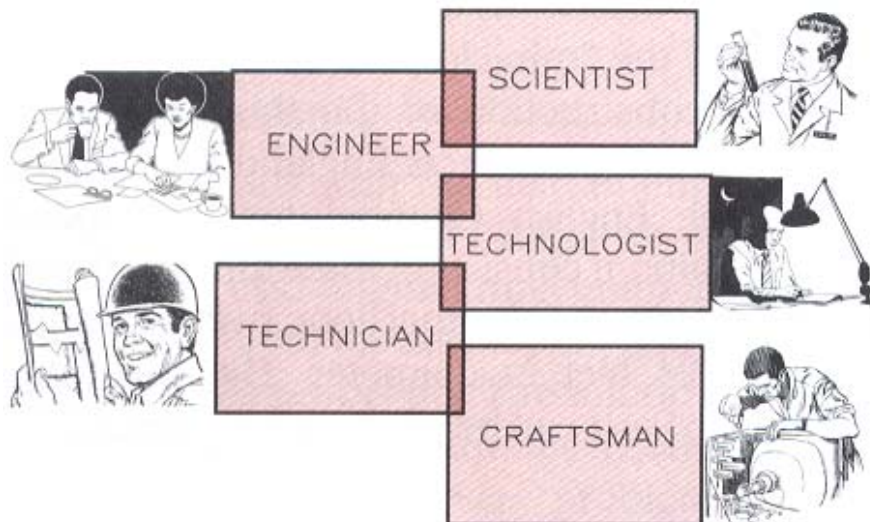

Figure 1: Occupational Level
- (b) According to Figure 1 below, explain briefly the tasks of Metal Fabrication Technician.